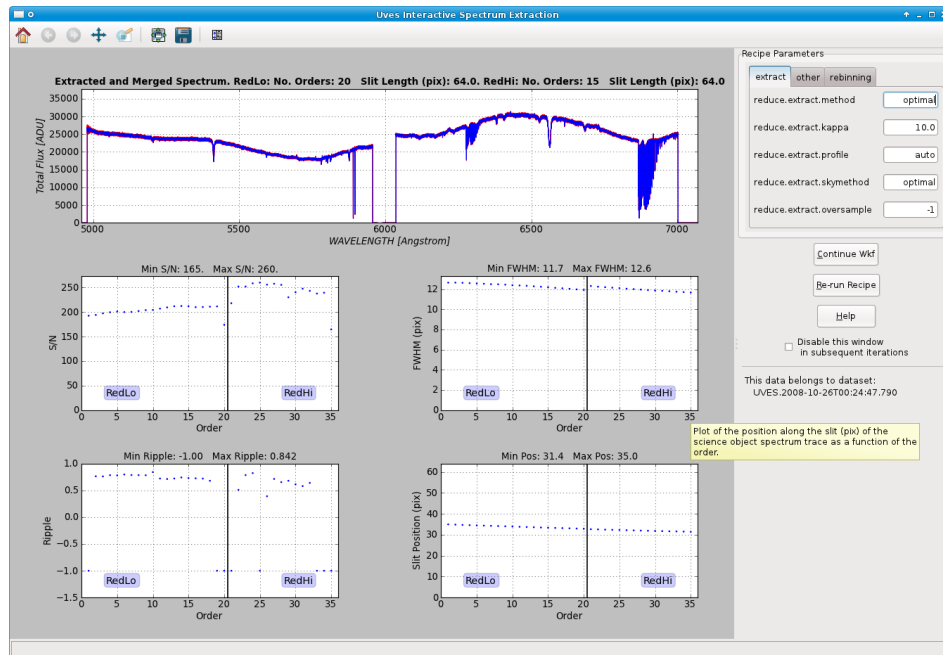

Figure 7.4: The interactive window for the Spectrum Extraction actor for the first DataSet in the data supplied with Reflex 2.2.
- Spectrum Extraction:** In Figure 7.4, we show the interactive window associated with the Spectrum Extraction actor, which executes the UVES pipeline recipe `uves_obs_scired`. This pipeline recipe performs the extraction of the science object spectrum using optimal extraction (Horne 1986), automatically selecting an analytical spatial profile (Gaussian or Moffat) in the case of low S/N spectra ($S/N < 10$) or an oversampled empirical spatial profile otherwise, and automatically determining the degrees of the low-order polynomials involved in the extraction process. The top plot in the interactive